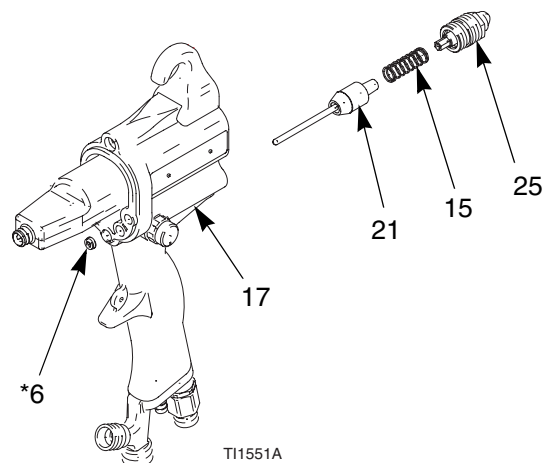

Fig. 18. Air Valve
3. Remove the fluid adjustment valve (25) from the handle (17). Remove the spring (15). See FIG. 18.